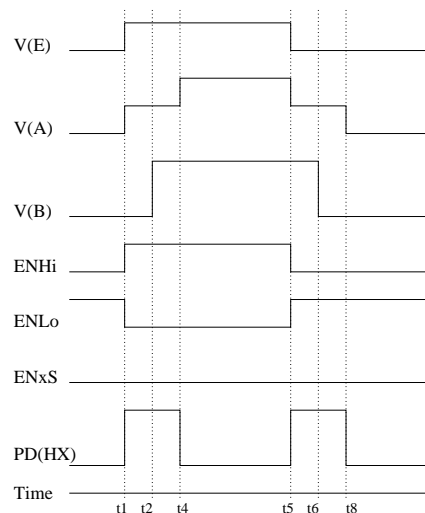
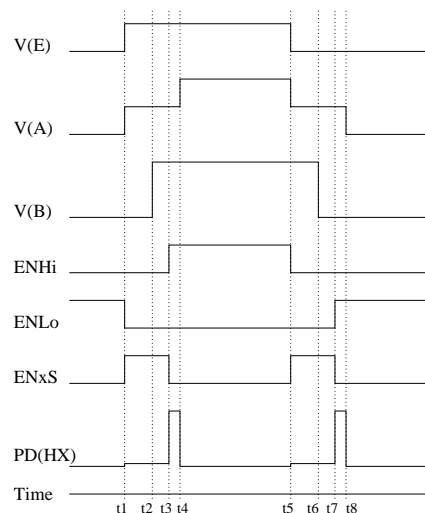

Figure 6: Power dissipation $P_D(HX)$ without iC-xSwitch
Figure 7: Power dissipation $P_D(HX)$ with iC-xSwitch
Figures 6 and 7 show the input signal V(E), the switch trigger signals derived from this and the voltage curve
at the beginning (A) and end (B) of the line at intervals t1 to t8. Figure 6 shows operation without iC-xSwitch. Power dissipation $P_D(HX)$ occurs at intervals t1 to t4 and t5 to t8. Figure 7 describes operation with iC-xSwitch; power dissipation $P_D(HX)$ occurs between t3 and t4 and t7 and t8. The mean power dissipation is significant for the warming of the device, which is proportional to the duty cycle. This results in a reduced power dissipation (at the same frequency), meaning there is less power dissipation with a shorter line or through the use of iC-xSwitch with a long line, for example.